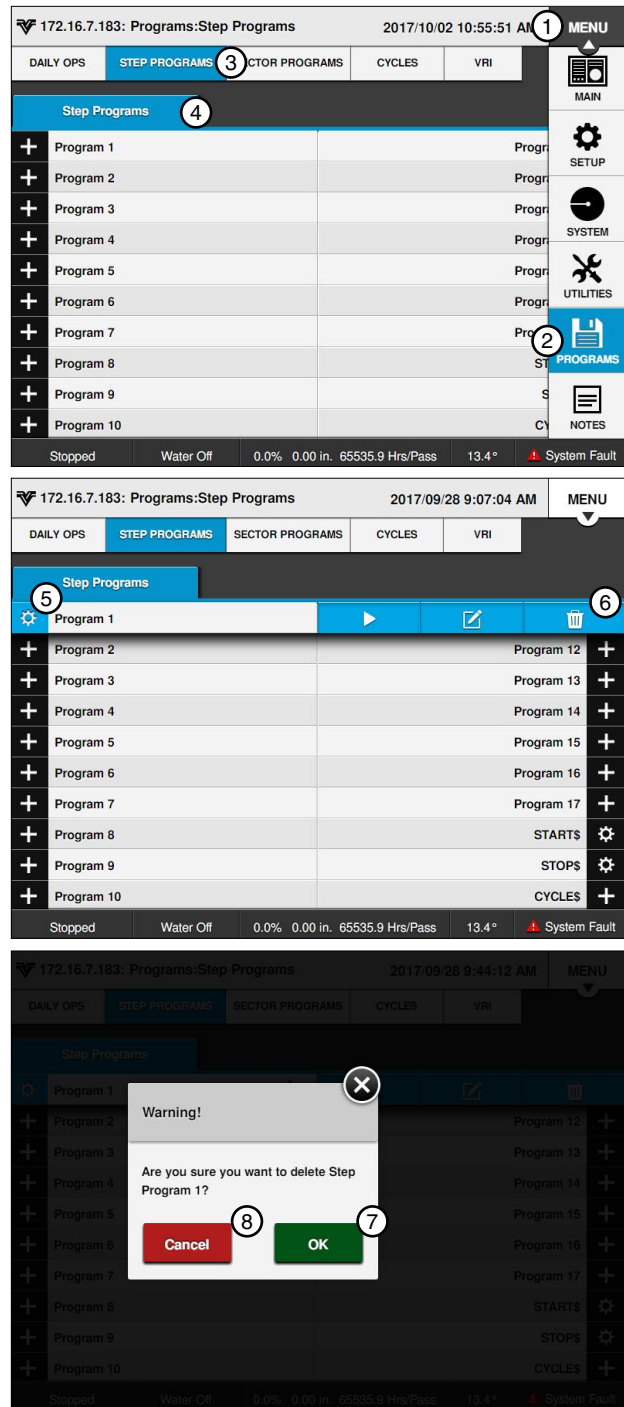

Figure 102-1 1. Menu 5. Settings
2. Push the **Settings** button corresponding to the preferred program number as shown in Figure 102-1.
4. When prompted with the Delete Step Program screen, push **OK** to finish deleting. Refer to Figure 102-1.